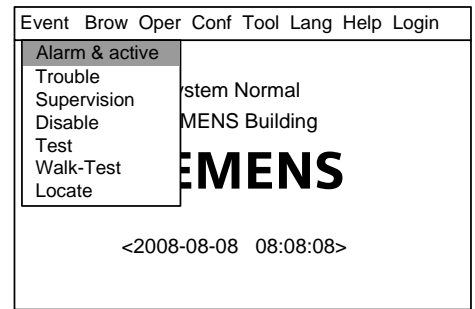

Fig.30-1
1. Press "Menu" to browse the main menu (Fig. 30-1)